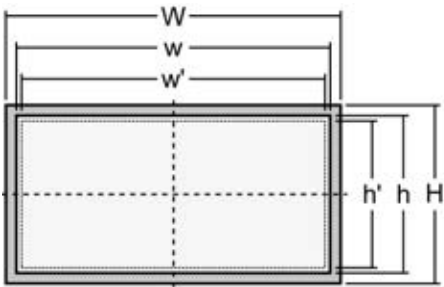

Fig. 10: Cutout schematic
1. ➔ Cut out the panel according to the dimensions in Fig. 10.